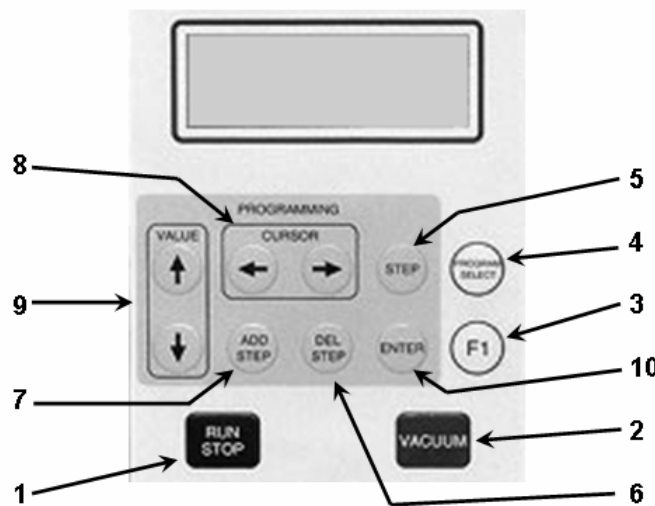

Figure 2. Keypad
1. Select the program letter (A – T) to be run using **PROGRAM SELECT** key (see figure 2).
4. Turn on vacuum by pressing **VACUUM** key (see figure 2).